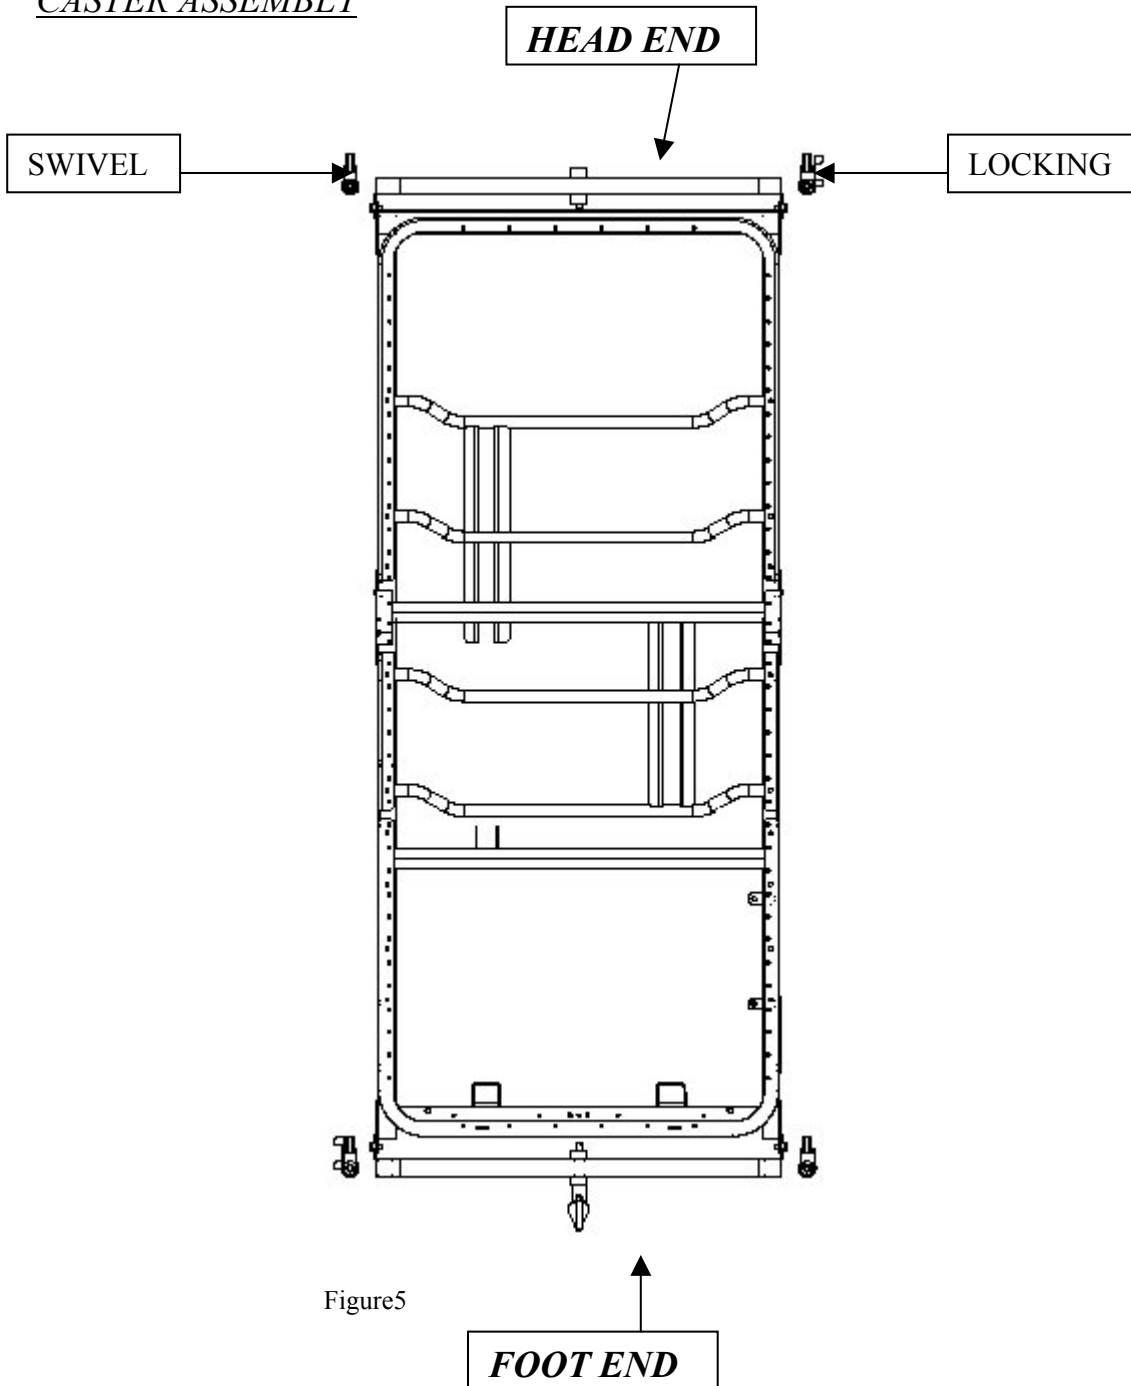

Figure5
- Insert casters in bed ends by lining up caster shaft with hole in bottom of bed end legs, and gently pressing in until secured. The two locking casters should be placed where accessible, preferably at opposite corners of the bed. (See Figure 5)